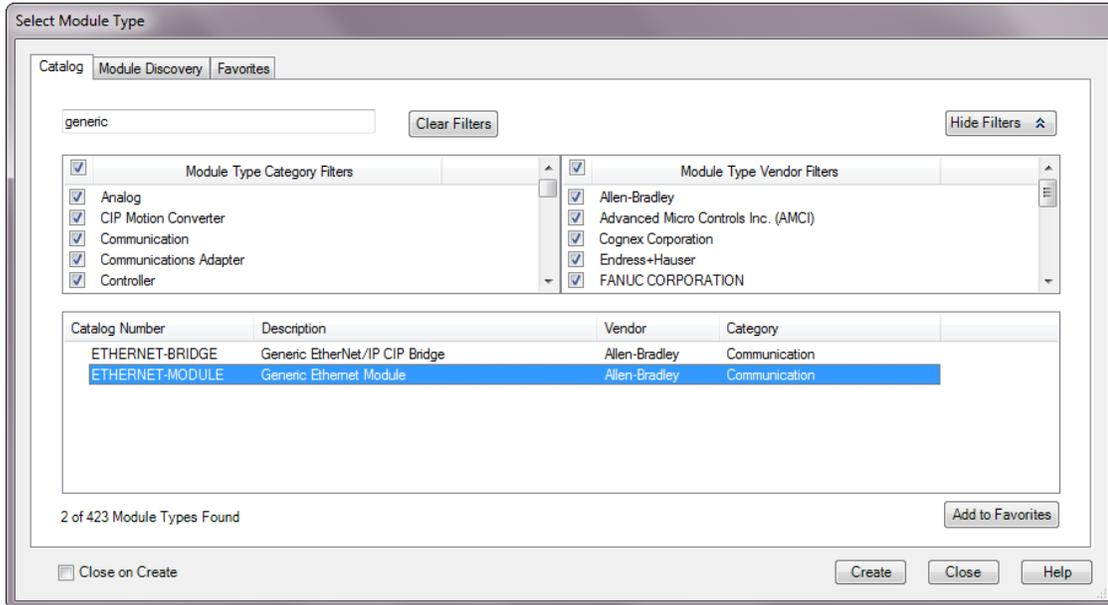

Figure T4.2 Selecting a Generic Device
- 2) In the resulting Select Module Type screen, type “generic” into the filter as shown in figure T4.2. This will limit the results in the Catalog Number list.